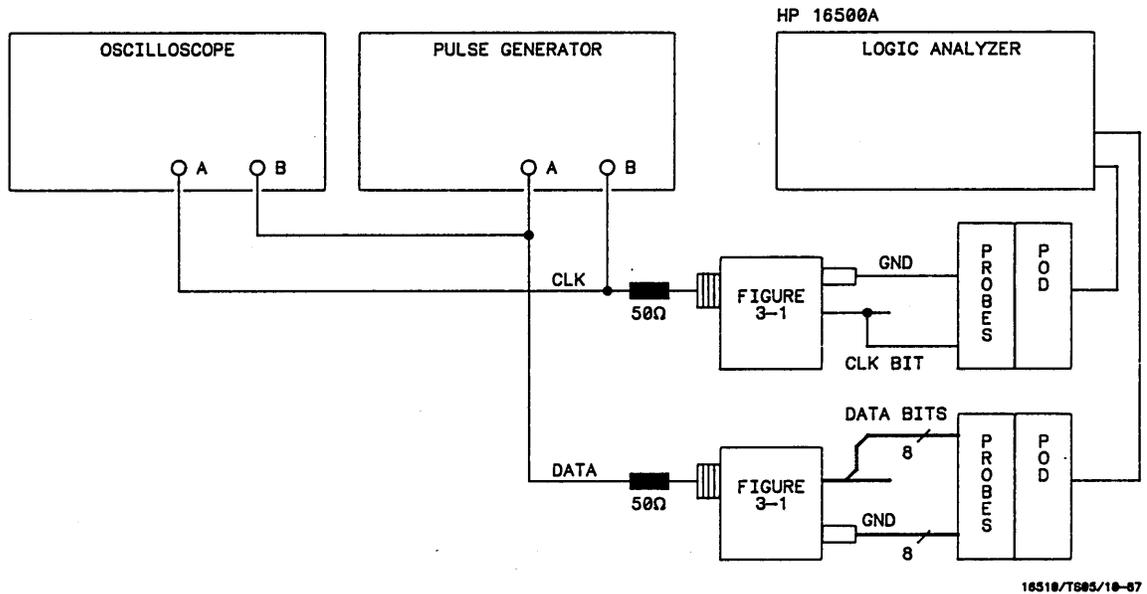

Figure 3-24. Setup for Clock, Qualifier, and Data Inputs Test 6
1. Connect the HP 16510A and test equipment as in figure 3-24 by connecting channels 0-3 and 8-11 of the pod under test to the test connector. On the slave clock transition the four bits of the lower byte are transferred to the logic analyzer, and on the master clock transition the four bits of the upper byte are transferred to the logic analyzer.